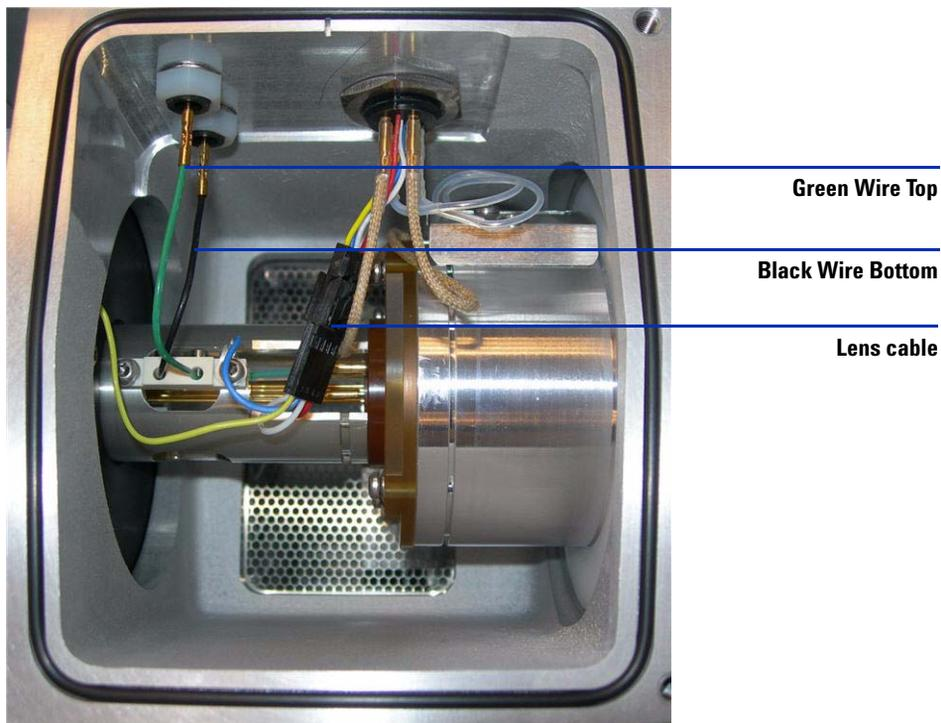

Figure 53 Optics assembly
- 6 Use your finger to push on the skimmer spacer to get the ion optics to pop out of the instrument. Be careful to catch it so it doesn't fall on the floor. See Figure 53.